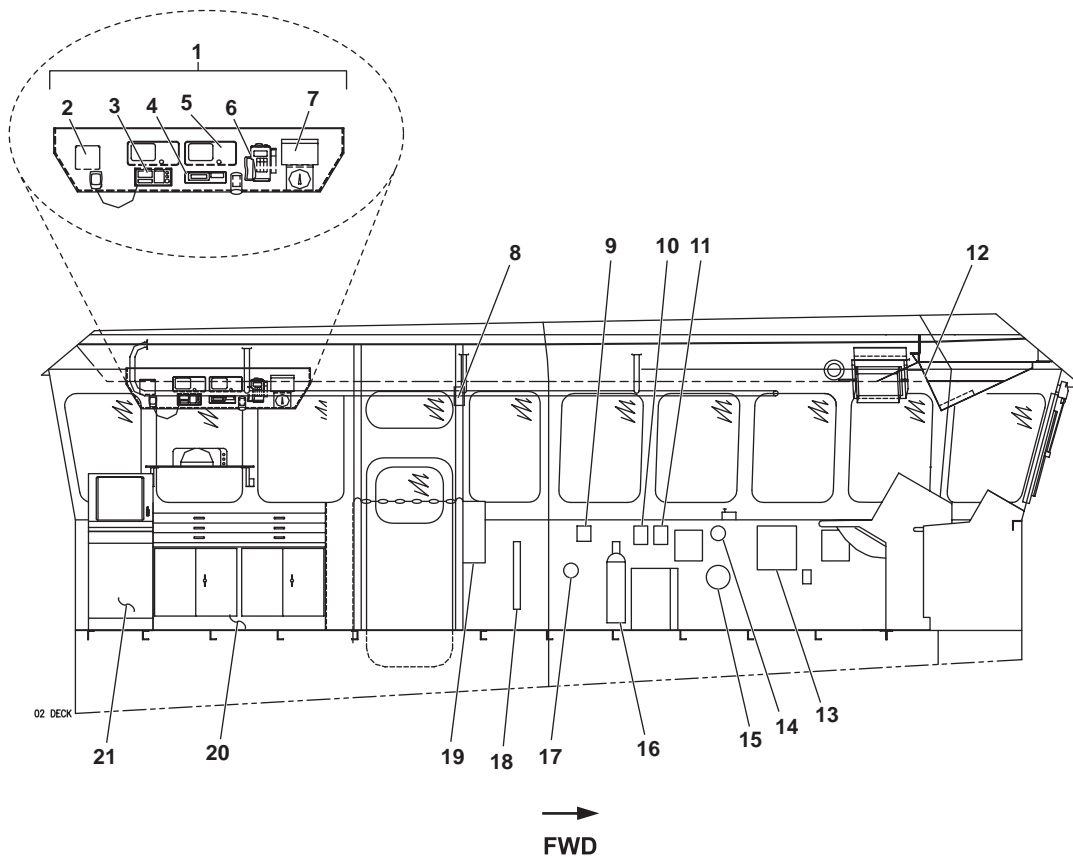

Figure 2. Pilothouse Interior (Looking to Port)
1. Aft chart table overhead console (figure 2, item 1). The aft chart table overhead console contains various pieces of navigation and communication gear including a marine Very High Frequency (VHF) radio, Precision Lightweight GPS (Global Positioning System) Receiver (PLGR), and wind speed/direction readouts.
2. Speaker (figure 2, item 2). This speaker broadcasts output from the marine VHF radio.
3. Marine VHF radio (figure 2, item 3). The marine VHF radio permits communication between the LT and other vessels and shore stations.
4. Wind tracker translator box (figure 2, item 4). The wind tracker translator box receives input from the masthead wind tracker unit and translates that input into a display on the AN/PSN-11 wind tracker.
5. Leica GPS units (figure 2, item 5). These commercial GPS units provide accurate positional information to pilothouse personnel and to various electronic navigational systems.
6. PLGR (figure 2, item 6). This GPS unit provides accurate positional information to pilothouse personnel and to various electronic navigational systems.
7. AN/PSN-11 wind tracker (figure 2, item 7). The AN/PSN-11 wind tracker displays wind speed and wind direction information.
8. Fire alarm pull station (figure 2, item 8). The fire alarm pull station permits pilothouse personnel to manually actuate the fire and smoke detection alarm.
9. Fire detection remote indicator panel (figure 2, item 9). The fire detection remote indicator panel alerts pilothouse personnel to fire and smoke alarm indications from the vessel's four zones.
10. Emergency STOP switch for recirculation fan R01-32-2 (figure 2, item 10). The emergency STOP switch for recirculation fan R01-32-2 permits pilothouse personnel to STOP this fan (located in the 01 level fan room) in an emergency.
11. Emergency STOP switch for exhaust fan E01-44-02 (figure 2, item 11). The emergency STOP switch for exhaust fan E01-44-02 permits pilothouse personnel to STOP this fan (located in the 01 level fan room) in an emergency.
12. IBS distribution panel (figure 2, item 12). The IBS distribution panel provides circuit breakers for the IBS system.
13. Door alarm switchboard (figure 2, item 13). The door alarm switchboard alerts pilothouse personnel to open door conditions for the radio room, arms locker, and main deck fan room. The door alarm switchboard also alerts the pilothouse personnel when the arms locker raw water drenching system has been activated.
14. General alarm contact maker (figure 2, item 14). The general alarm contact maker permits pilothouse personnel to actuate the general alarm system.
15. General alarm bell (figure 2, item 15). The general alarm bell sounds whenever the general alarm system is actuated.
16. Fire extinguisher (figure 2, item 16). Three 10-pound dry chemical fire extinguishers are located in the pilothouse to permit extinguishing of small fires.
17. Fire detector alarm bell (figure 2, item 17). The fire detector alarm bell sounds whenever the fire and smoke alarm system senses an alarm condition in one of its four zones.
18. Search And Rescue Transponder (SART) (figure 2, item 18). Two SARTs are provided, one for each life raft. The SART aids rescue personnel in locating the life rafts.
19. Life preserver storage (port) (figure 2, item 19). Storage is provided for two life preservers.
20. Chart table (figure 2, item 20). The chart table provides open working space for navigation charts.
21. Backup ECDIS display (figure 2, item 21). The backup ECDIS display provides a second ECDIS work station.